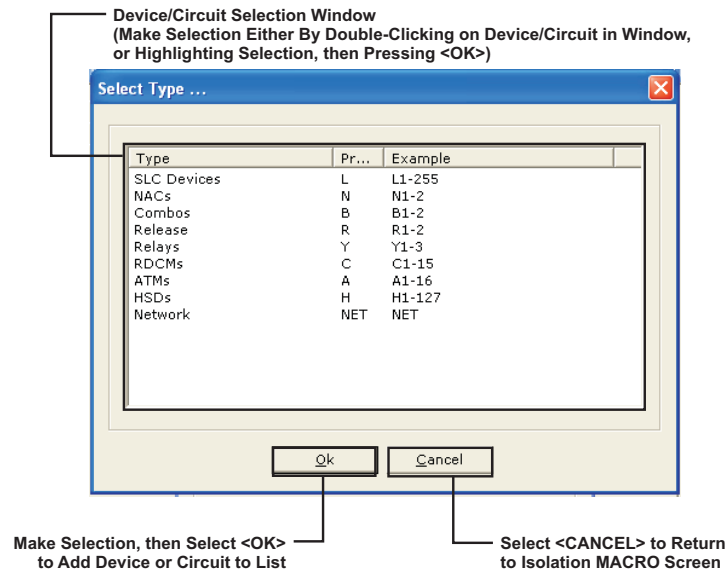

Figure 2-47. List of Selections for MACROs Screen
1. Select the **<Add>** button. Choose the initiating devices and/or output devices/circuits from the list shown in Figure 2-47.